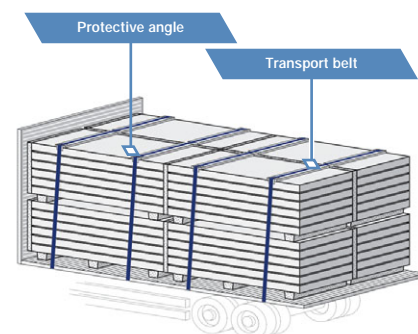

fig. 02
- Vehicle to be loaded must be equipped with transport belts and protective angles/corners for the belts (fig. 02), intended to secure the load at the container. Number of belts depends on length of the panels, spacing of the belts every approx. 2m. It is recommended that the vehicle is equipped with 2 sets of flat slings with eyes, 6m long and loading capacity 5 t;